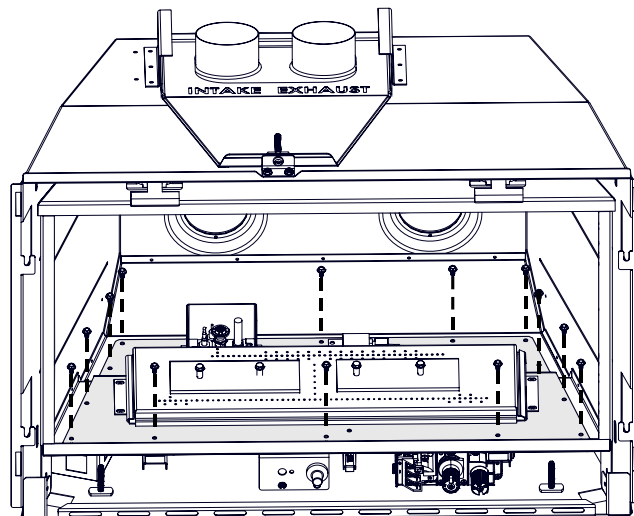

Fig. 7-1
5. Remove the 12 screws holding the valve train in place (**Fig. 7-1**).